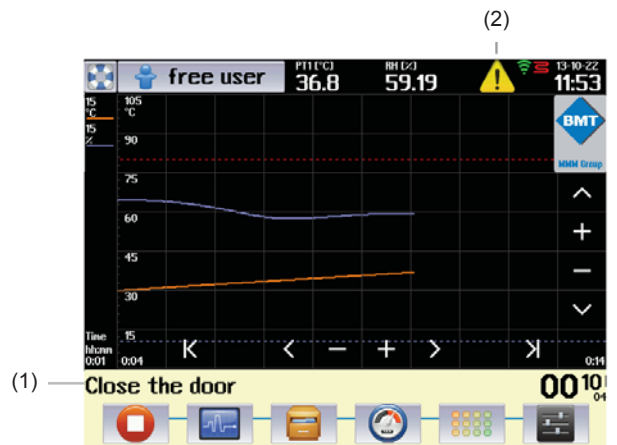
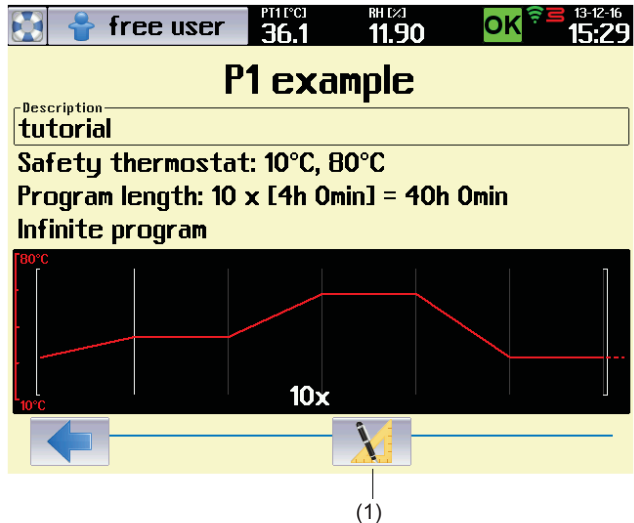

Fig. 67
Fig. 69
- (1) Date and time of postponed start.
In case of the door to be open in the course of the program, the field (1), Fig. 67 displays a relevant message and there
program. Using push buttons  (Fig. 67) and  (Fig. 69) you can reach the menu for program editing, see 8.4.2.